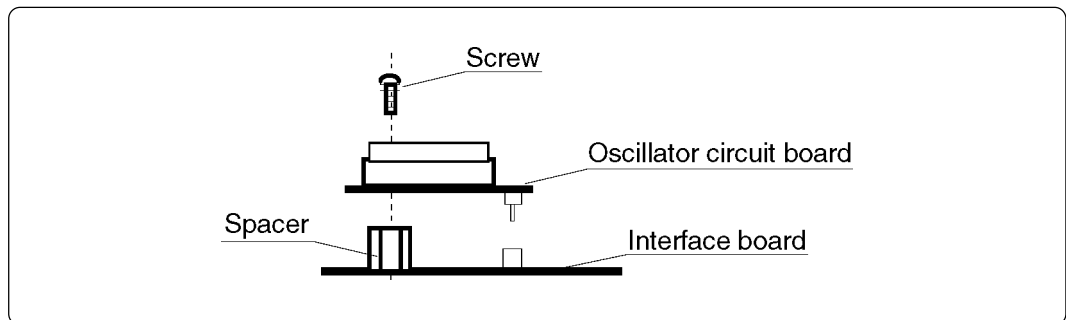

Figure 3.6 Replacing the oscillator circuit boards
- (2) Unscrew the screw connecting the oscillator circuit board (see Figure 3.6).
- (3) Lift off the oscillator circuit board.
- (4) Attach the J1 connector of another oscillator circuit board for replacement to the connector J1 (or J2) of the interface board M37900T-PRT.
- (5) Secure the oscillator circuit board to the interface board M37900T-PRT with the screw.
- (6) Replace the upper cover and secure it with the four screws.